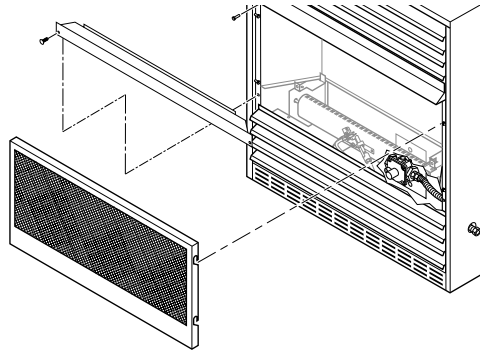

Figure 17 - Removing Twig Support From Fireplace
2. Remove screws that attach branch support to fireplace (see Figure 17). Carefully lift up branch support and remove from fireplace (see Figure 17).